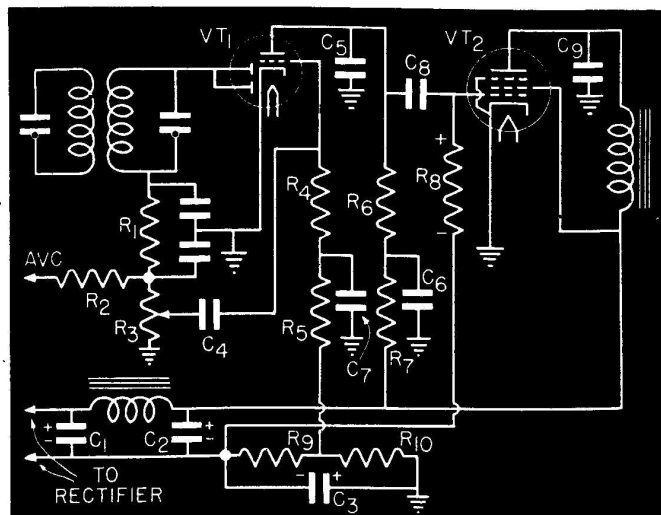

FIG. 5. This circuit is the same as that in Fig. 3. It is repeated here for your convenience in reference.
► If the stage uses a fixed bias, such as VT_1 in Fig. 5, distortion occurs if the plate voltage drops even slightly. For example, let's suppose condenser C_6 becomes leaky. This effectively connects a resistance (the leakage resistance of C_6) between the R_6 - R_7 junction and the chassis. This leakage resistance acts as a voltage divider with R_7 , so the plate voltage of VT_1 is lowered. The bias on VT_1 , however, remains normal, because the bias is determined by the voltage drop across R_{10} , which in turn is determined mostly by the plate current of VT_2 . This normal bias voltage is too high for the lowered plate voltage, so distortion occurs.